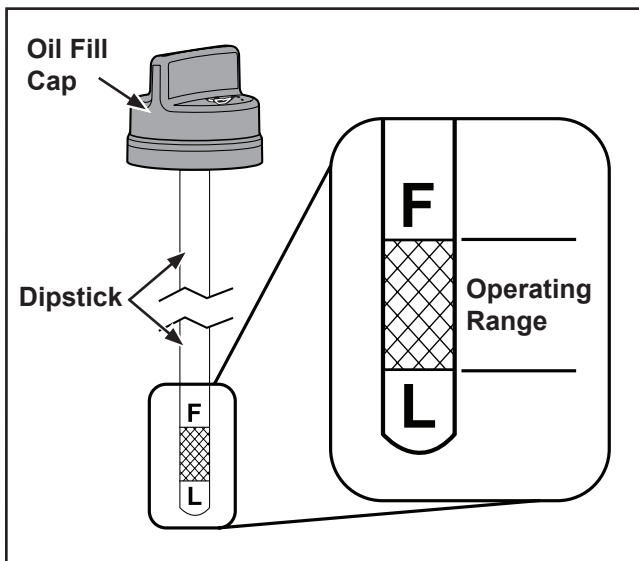

Figure 27. Correct Oil Level.
4. Unscrew and remove the oil fill cap/dipstick and check that oil level is correct. The correct oil level is between the F and L marks on the dipstick. See Figure 27.